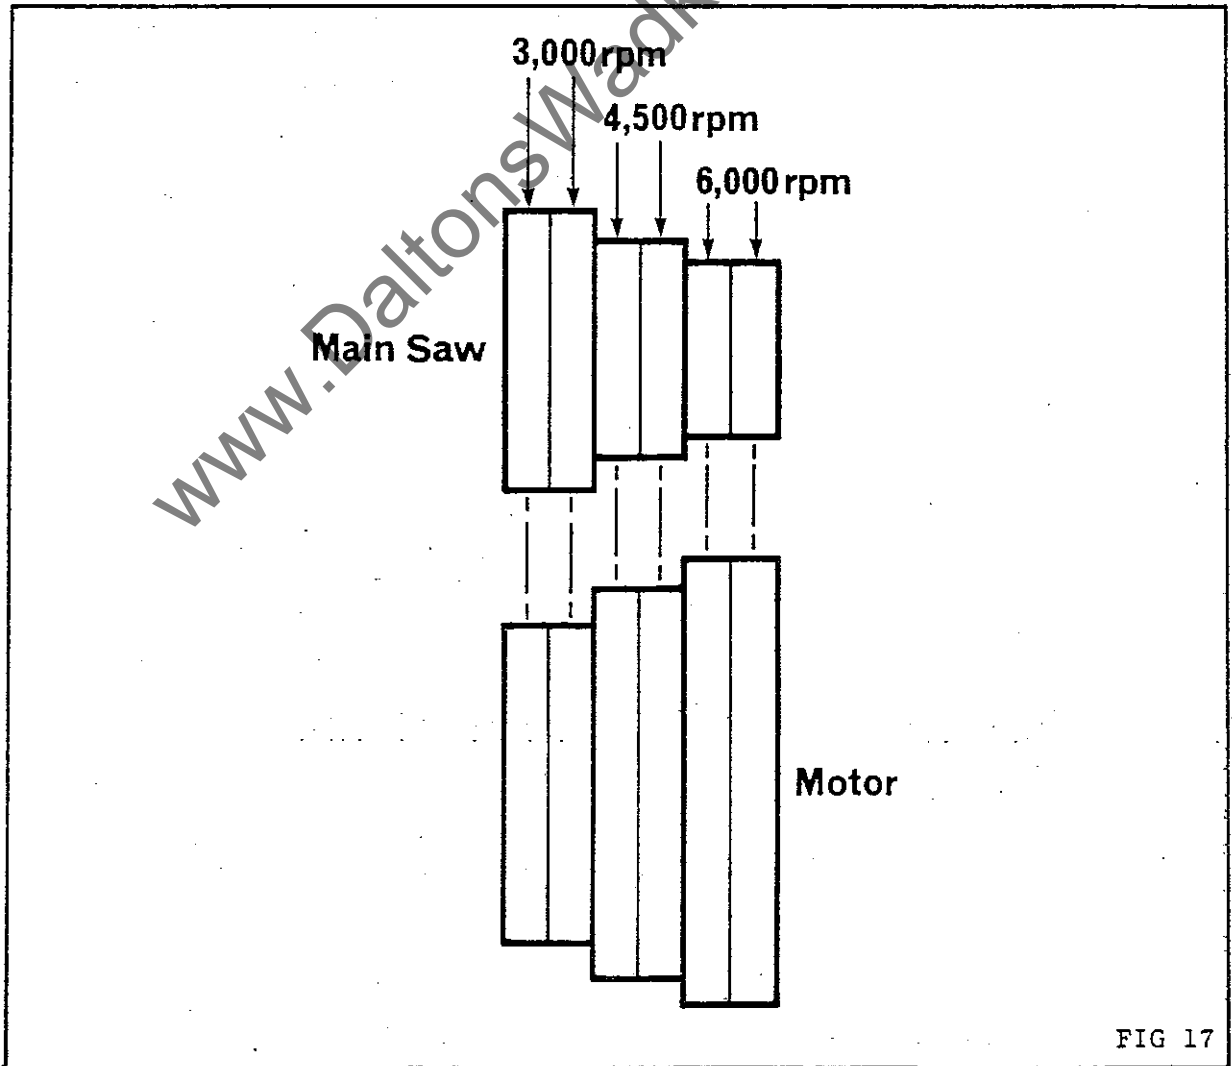

FIG 17
6. Position drive belt on pulleys for required saw spindle speed, SEE FIG 17, FOR MAIN SAW PULLEY LAYOUT AND SPEEDS.